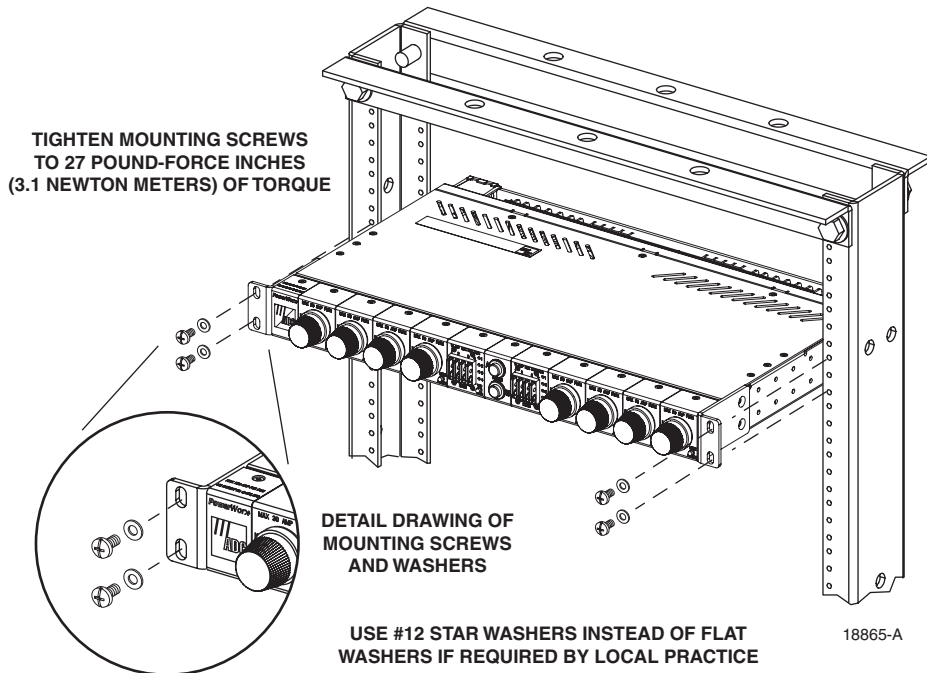

Figure 14. Mounting Fuse Platform on Rack
5. Secure the fuse platform to the equipment rack as shown in Figure 14 using the four 3/8-inch (9.53 mm) long pan-head screws and flat washers provided.